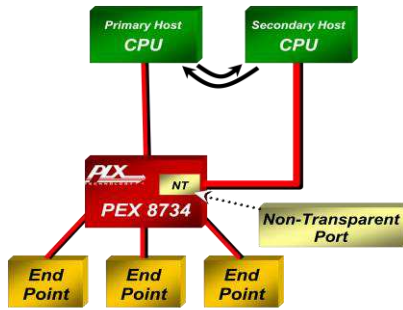

Figure 3. Non-Transparent Port
In Single-Host mode, the PEX8734 supports a **Non-Transparent (NT) Port**, which enables the implementation of **dual-host systems** for redundancy and host failover capability. The NT port allows systems to isolate host memory domains by presenting the processor subsystem as an endpoint rather than another memory system. Base address registers are used to translate addresses; doorbell registers are used to send interrupts between the address domains; and scratchpad registers (accessible by both CPUs) allow inter-processor communication (see Figure 3).